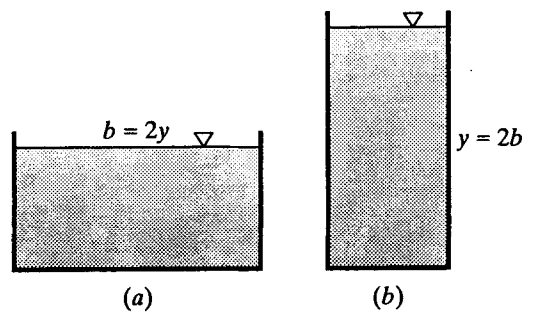

Figure X10.6.2
10.6.3 A rectangular flume of planed timber ($n = 0.012$) slopes 1 m per km. (a) Compute the rate of discharge if the width is 2 m and the depth of water is 1 m (Fig. X10.6.2). (b) What would be the rate of discharge if the width were 1 m and the depth of water 2 m? (c) Which of the two forms would have the greater capacity and which would require less lumber?